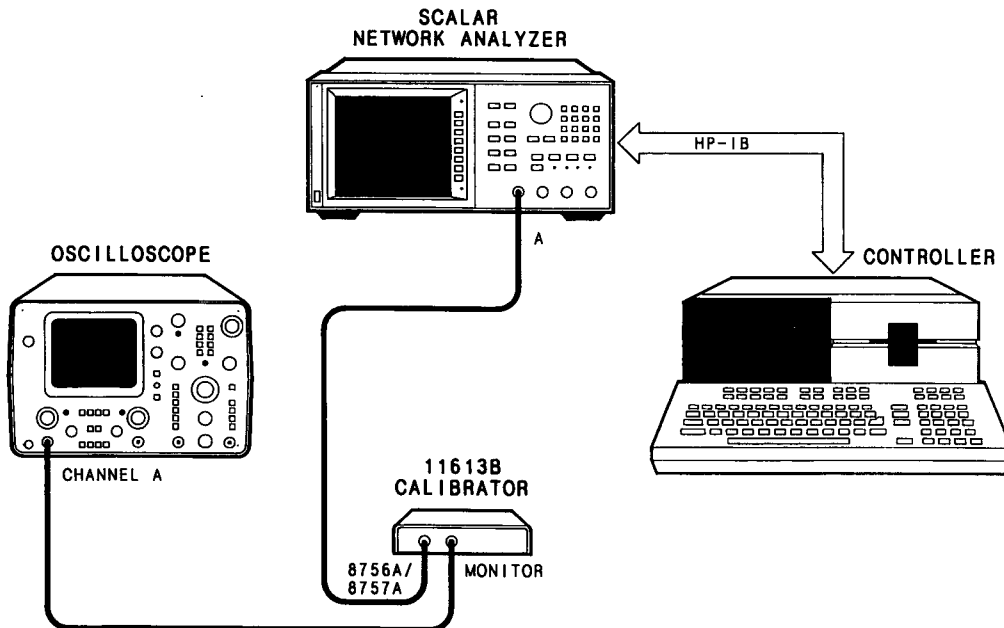

Figure 6-1. Test Setup #1 for Output Signal Check
3. Connect the equipment as shown in Figure 6-1.